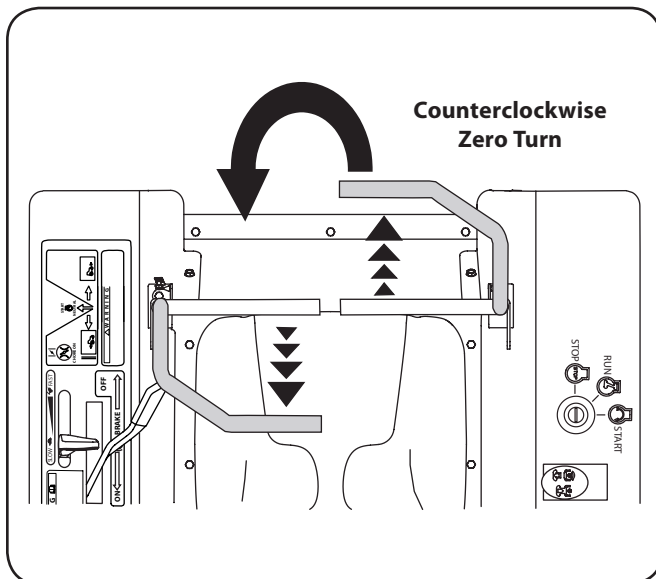

Figure 5-9
3. To turn counterclockwise, move the right control lever forward while simultaneously moving the left control lever rearward. See Figure 5-9.